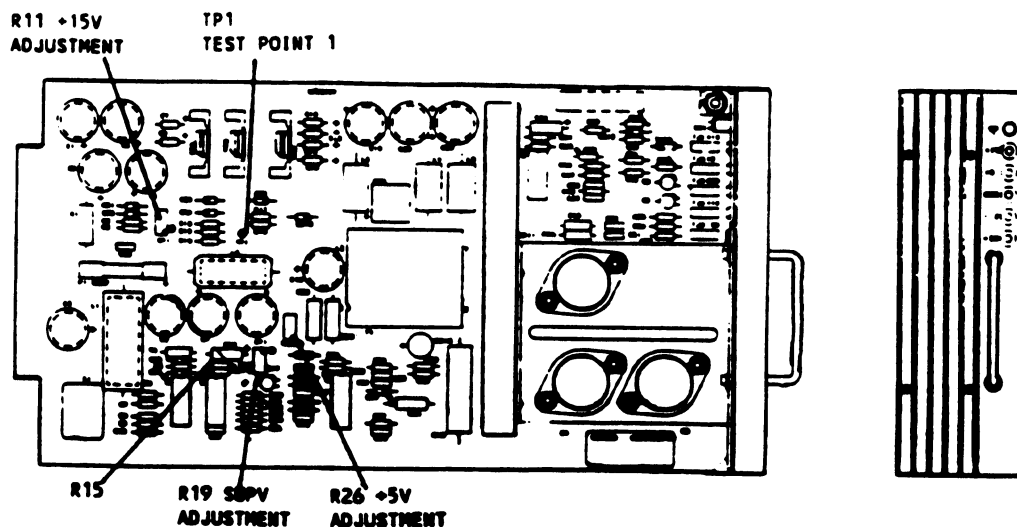

Figure 5-5. Power Converter Card (for Highway Devices) PN41B0985
2. Insert the power converter card shown in Figure 5-5, in the test slot labeled MUX POWER CARD.